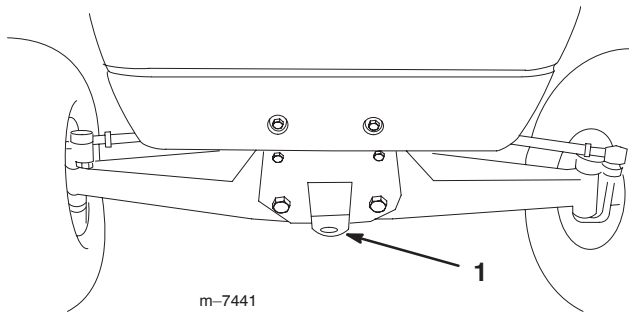

Figure 16
2. Affix a tow line to the tongue on the front frame member (Fig. 16).